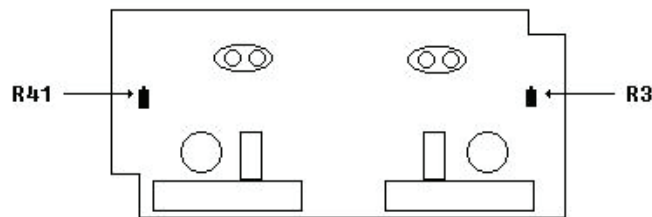

Figure 2. A3 input attenuator (component side).
- (6) Set signal generator frequency to 100 MHz and amplitude to 25 mV.
- (7) Position oscilloscope controls as listed in (a) through (f) below:
- (8) Adjust **A3R41** (fig. 2) and **A3R3** (fig. 2) for **CHANNEL B** for a symmetrical waveform displayed on oscilloscope (R).